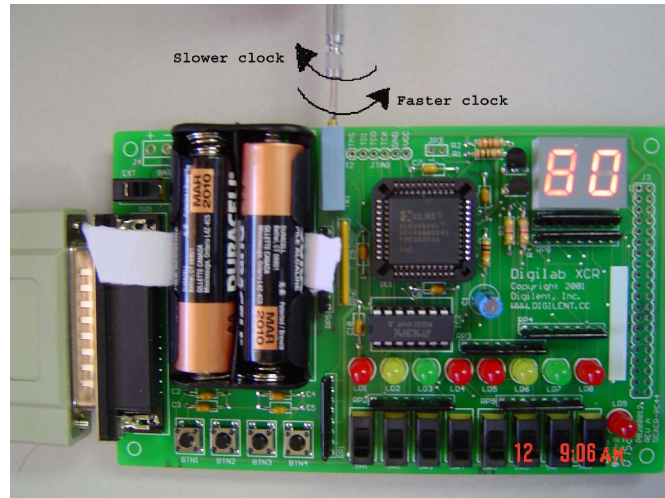

Figure 10; Clock setup by moving potentiometer
7. Test the clock; The XCR board provides a user-adjustable oscillator that can produce a clock signal in the 0.5 to 4 KHz range. The frequency is fixed by a 15-turn precision potentiometer (variable resistor) that can be adjusted from 0 to 500K ohms. Vary the value of the potentiometer as shown in figure 10 (slowly please!!!). Explain your T.A what is happening (Hint: remember from lecture notes, the dual-digit seven segment display is multiplexed in time).